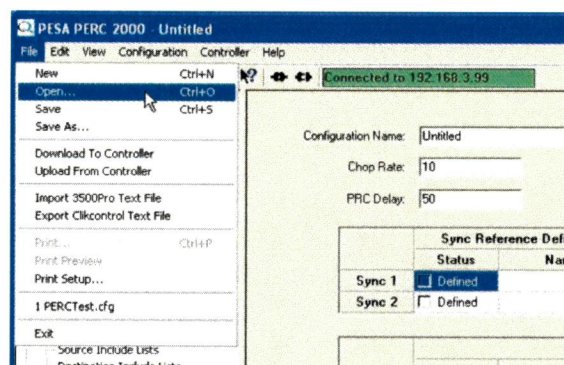

Figure 48. File Menu Listing
- ☐ 5. Click on the File menu in the WIndows™ menu bar and select the “Open” option from the menu as shown in Figure 48.